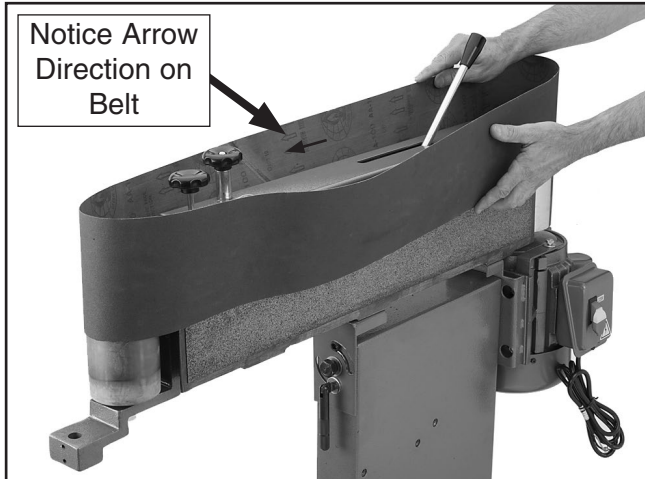

Figure 10. Installing sanding belt.
- Loosen the belt tension lock knob, and move the tension lever to the release position, as shown in **Figure 10**.
- Make sure the arrows on the inside of the belt point in the counterclockwise direction, and place the sanding belt over both rollers as shown in **Figure 10** above.